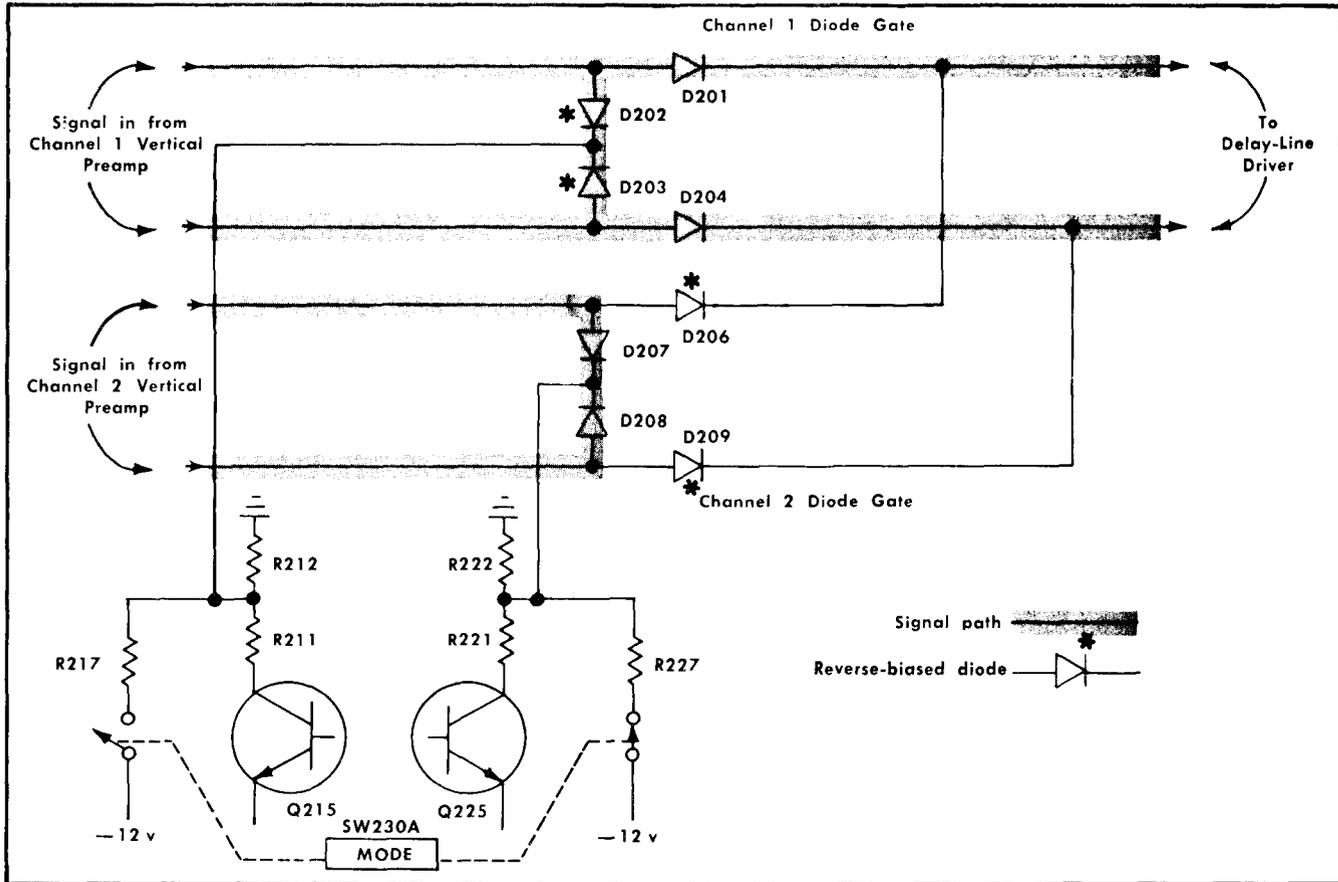

Fig. 3-5. Effect of Diode Gates on signal path (simplified Vertical Switching diagram). Conditions shown for CH 1 position of MODE switch.
**CH 1.** In the CH 1 position of the MODE switch, -12 volts is applied to the junction of D207-D208 in the Channel 2 Diode Gate through R227 (see simplified diagram in Fig. 3-5). This forward biases D207-D208 and reverse biases D206-D209 since the input to the Delay-Line Driver stage is at about -5.8 volts. D206-D209 block the Channel 2 signal so it cannot pass to the Delay-Line Driver stage. At the same time, in the Channel 1 Diode Gate, D202-D203 are connected to ground through R212. D202-D203 are held reverse biased while D201-D204 are forward biased. Therefore, the Channel 1 signal passes to the Delay-Line Driver stage.